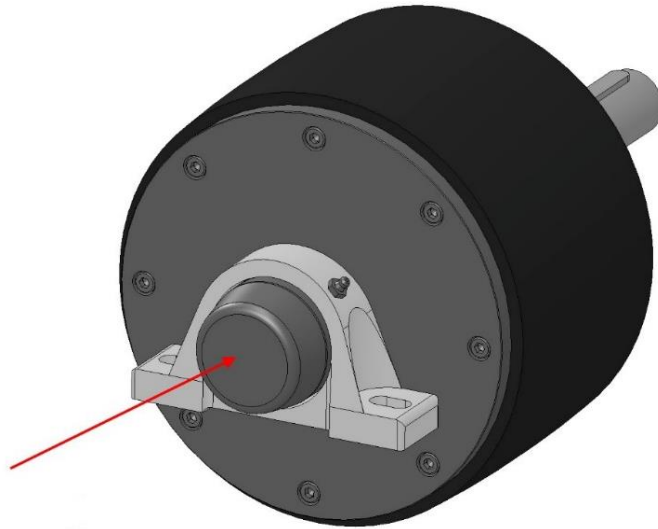

Figure 11: Bearing housing end cap cover
2. Remove four bolts M12 and then remove the wheel assembly from the accelerator base (Figure 11).